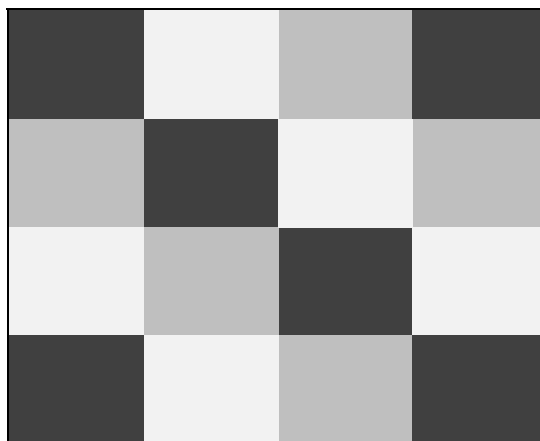

Figure 5-2. Display Test Pattern
2. Press **F3 CALIBRATE**. The display will show a dark test pattern, see Figure 5-2